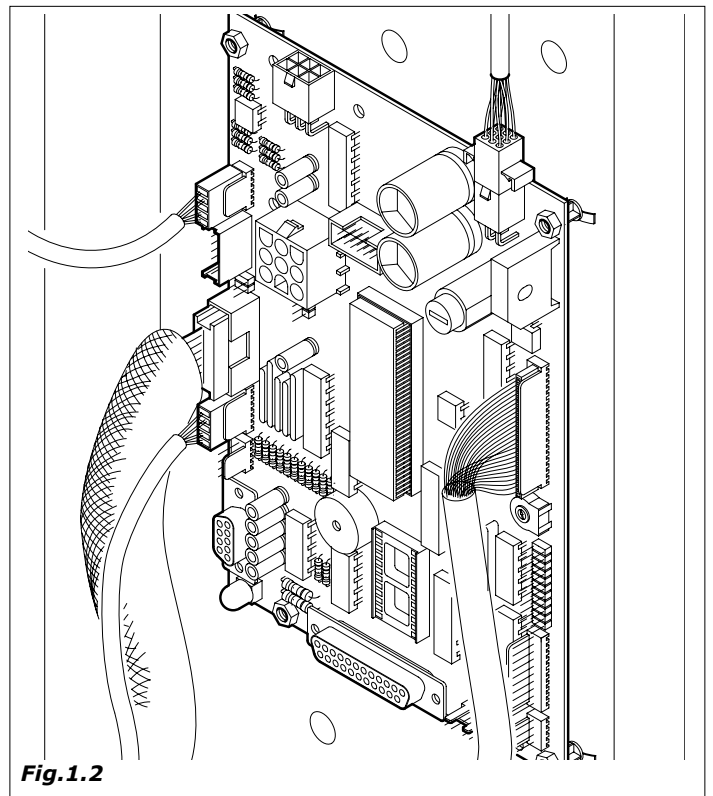

Fig.1.2
- The version of the programme contained in the microprocessor (adhesive label applied to the component assembled on the Master board) (Fig.1.2).